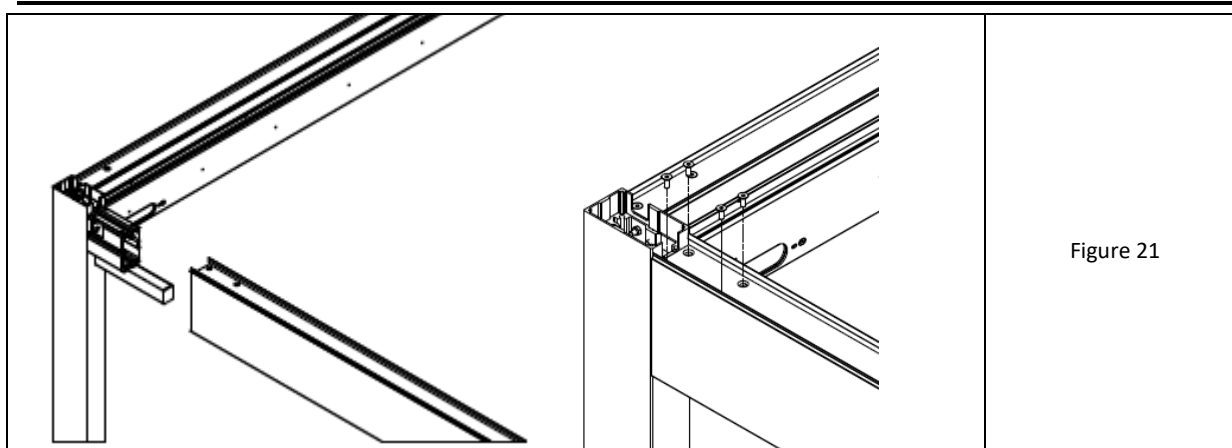

Figure 21
8. Slide the lengthwise beam on the bones of the cross frame posts from the side of the angular overflow (fig. 21-left).
10. When inserting the profile avoid abrasion of the sealing layer and apply EPDM to the beam wall only after aligning the contours of the holes. Tighten the overflow with 2 countersunk screws M5x8 (in external oval holes with deepening) (fig. 21-right).
11. Fasten the lengthwise beam to the post's bone from the side of the upper chamber using four countersunk screws M8 x 20 with Allen sockets (fig. 21-right).